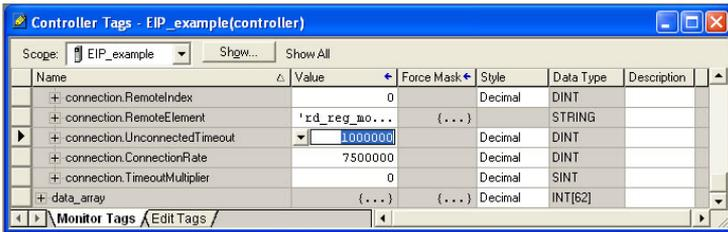

Figure 99: Reduce the UnconnectedTimeout Value
e) Select the "Monitor Tags" tab. Expand the "connection" tag by clicking on the "+" sign next to the tag name. Scroll down to the connection.UnconnectedTimeout field and change its value from the default 30000000 (30s in 1uS increments) to 1000000 (1s). This value determines how long to wait before timing out and retransmitting a connection request if a connection failure occurs. Refer to Figure 99.